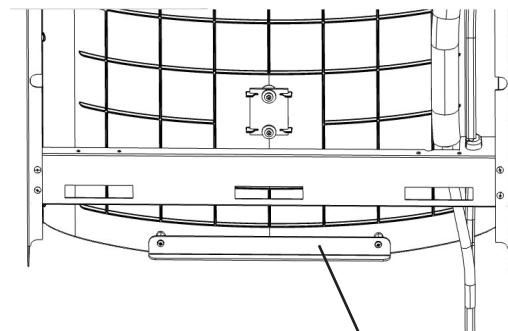

Fig. 8
- 6) **Install gasket** on bottom of bottle filler tower with gasket support bracket & (2) screws (See Fig. 8).